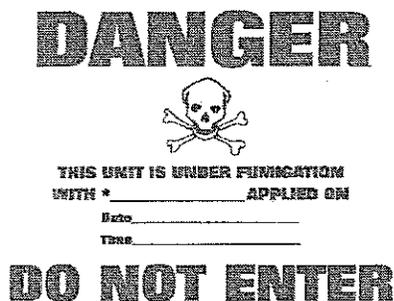

Figure 9. Fumigant Mark
1. As information, the purpose of the FUMIGANT mark (see Figure 9) is to warn persons unloading the rail car, trailer, or container that it has been fumigated and that they must take appropriate precautions before unloading the car. The (*) on the mark will be replaced by the name of the fumigant.